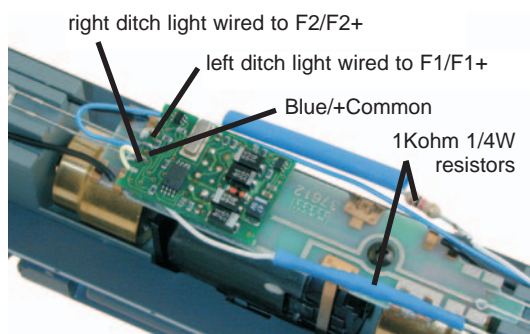

Figure 6. LED installation
3. Install two incandescent 1.5V/15mA lamps (or LEDs) as shown in *Figure 6&7*. A 1Kohm 1/4W resistor should be soldered inline with the lead to each light/LED. The resistor value may be changed to set the desired level of brightness of the lights. Slide a short length of shrink wrap on each lead to cover the resistor. The leads from the lamps or LEDs are soldered to F1/F1+ pads on the decoder (*Figure 4*) for the left ditch light and F2/F2+ pads for the right ditch light. The Blue (+Common) wire is soldered to the middle pad on the decoder.